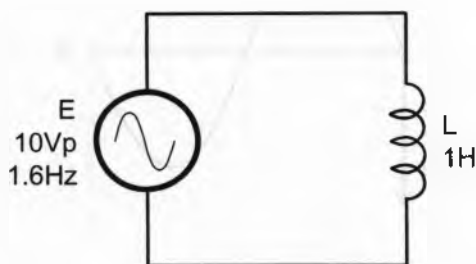

Figure 3 A simple single-inductor circuit
Figure 3 below shows a simple single-inductor circuit connected to a 10V peak supply.
As reactive power is energy that is not dissipated, the watt cannot be used for its unit of measurement. Instead, the *volt-ampere reactive* is used and is abbreviated to *var*. So, the reactive power (Q) of the inductor in Figure 3 is: $Q = I \times V_L = 7.07V \times 0.707A = 5 \text{ vars}$.
A capacitance of $1,600\mu\text{F}$ and an EMF frequency of 10Hz has been chosen for the circuit so that the capacitor's reactance is 10Ω . This gives us a convenient comparison with the resistive circuit in Figure 1 and the inductive circuit in Figure 3 because the peak circuit current of 1A is the same in all cases.